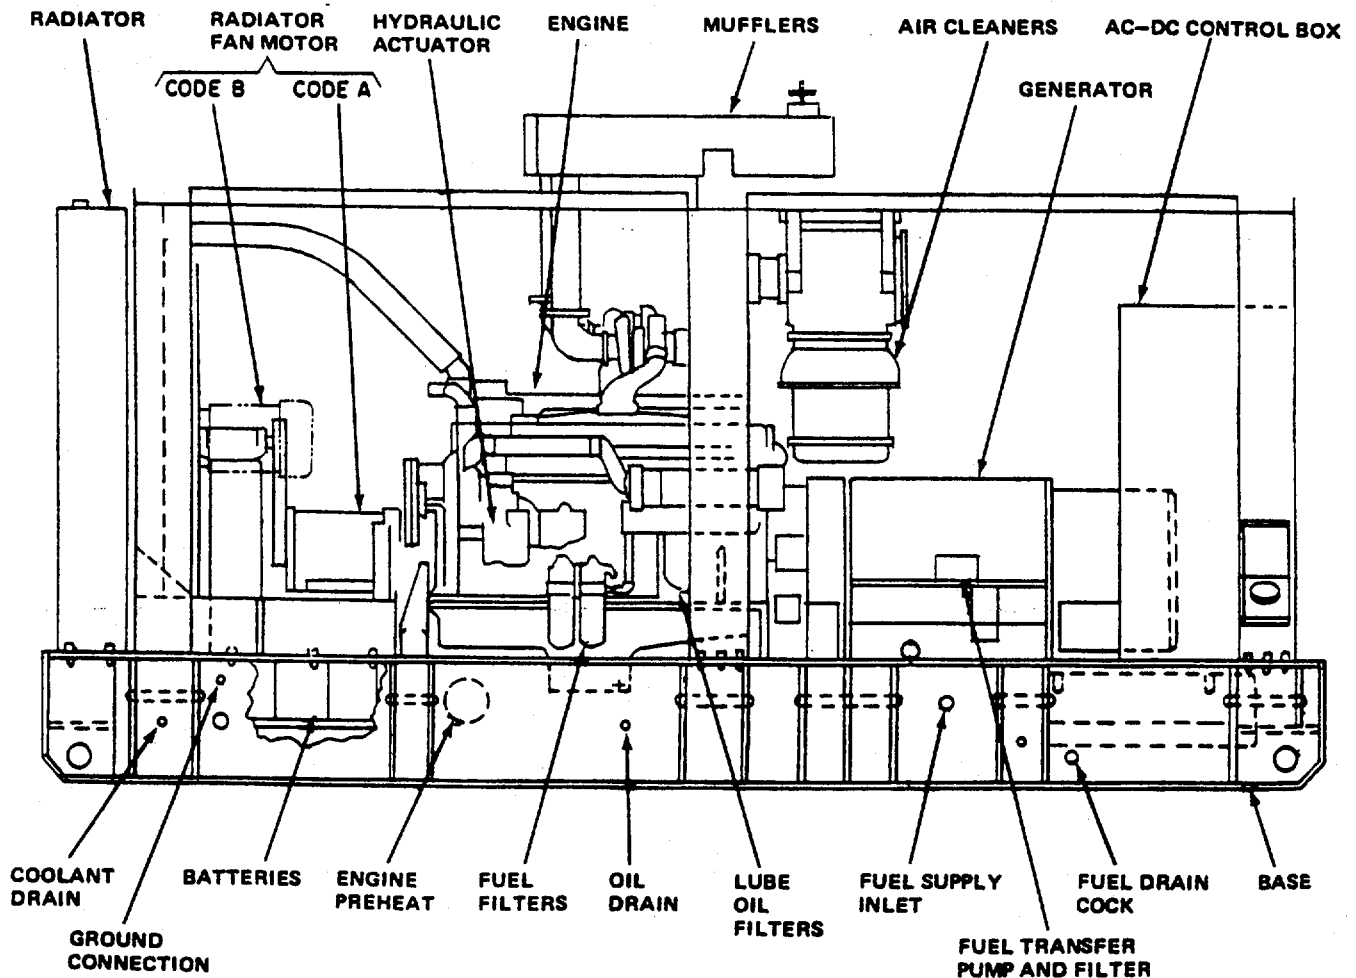

Figure 1-1. Generator Set, Left Side
- a. General. The generator set, military model MEP-029A and MEP-029B (figures 1-1, 1-2, 1-3, and 1-4), is a skid-mounted, self-contained unit. The generator is provided with controls, instruments and accessories necessary for operation as a single unit, or in parallel, with up to three additional units of the same class and mode. Housing kit (military model MEP-029 AHK) is available for field installation. The housing kit encloses the top, sides, and ends of the set and is removable to provide access for overhaul or replacement of the major components. The housing kit is attached to a skid base by bolted construction to provide a rain proof enclosure. When the doors, covers, and louvers are closed, rain, snow, and sand are excluded from the interior of the housing. An automatic control module (ACM), remote control module (RCM),